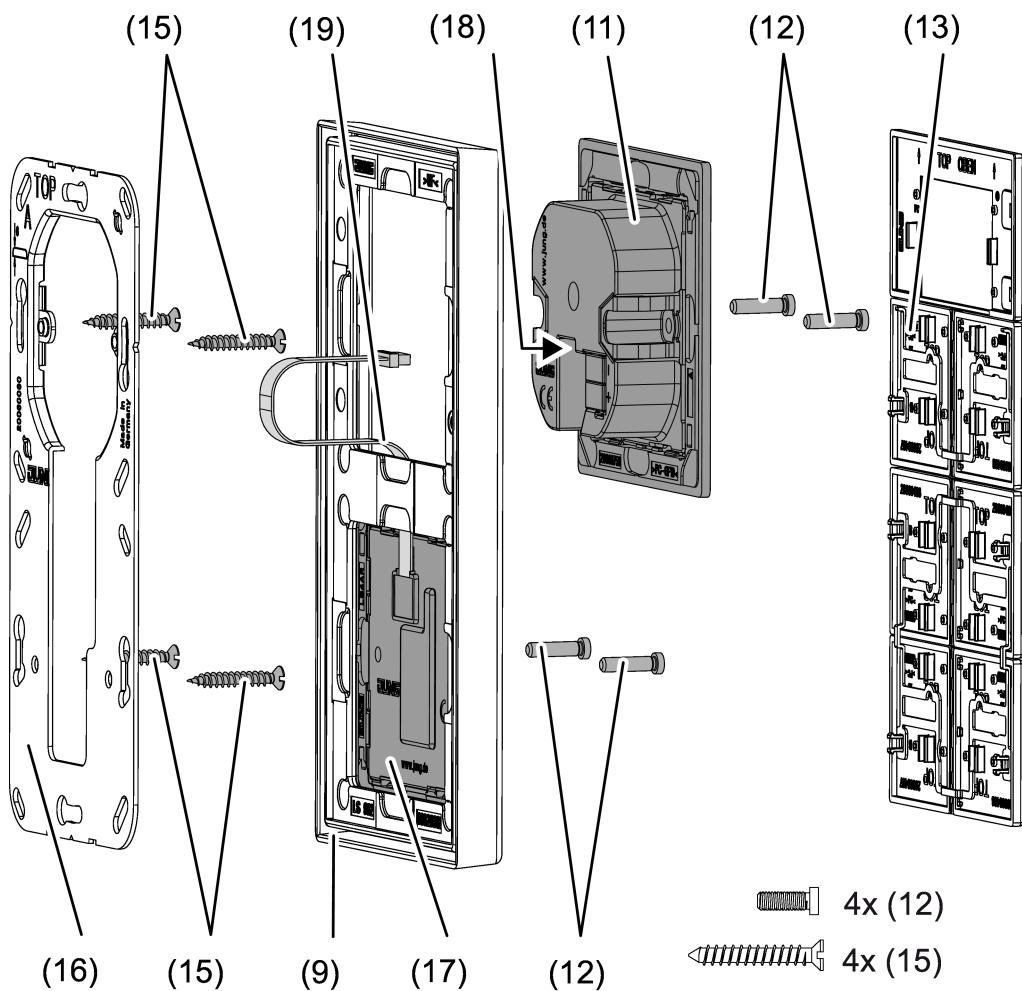

Figure 4: Mounting with push-button sensor extension module
When the push-button sensor extension module is used (see figure 4): preferably mounted vertically. Use large supporting frame (13). When mounting on only one appliance box, countersink the lower screws into the wall, e.g. with a ø 6 x10 mm hole. Use supporting frame as template.
- Mount supporting frame (8) or (16) in the correct position onto an appliance box. Note marking **TOP** = at top; marking **A** or **B** in front. Use box screws (15) (see accessories).
- Push frame (9) onto supporting frame.
- Mount the push-button sensor extension module (17) preferably below. Route connecting cable (19) between supporting frame and intermediate web.
- Push-button sensor extension module: Insert connecting cable (19) in the correct orientation into slot (18) in the controller module. Do not crimp the connecting cable (see figure 4).
- Connect controller module (11) to the KNX using KNX device connection terminal (14) and push onto the supporting frame.
- Optionally fix the controller module (11) and push-button sensor extension module (15) to supporting frame using plastic screws (12) (see accessories). Tighten the plastic screws only lightly.
- Before mounting the operating areas (13), load the physical address into the device (see chapter Commissioning).